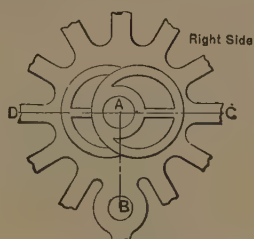

Fig. 201.
A. As in Fig. 201, the lettering being the same.